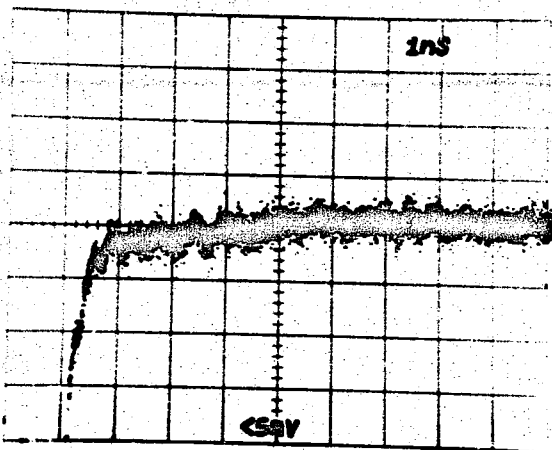

Fig. 7-12. Response to 284 Step Signal at 2% per division.
f. Being careful not to move the CH 1 VOLTS/DIV red CAL control, change the VOLTS/DIV control to 5 mV (2% per division) and center the top of the pulse on a graticule line (see Fig. 7-12).